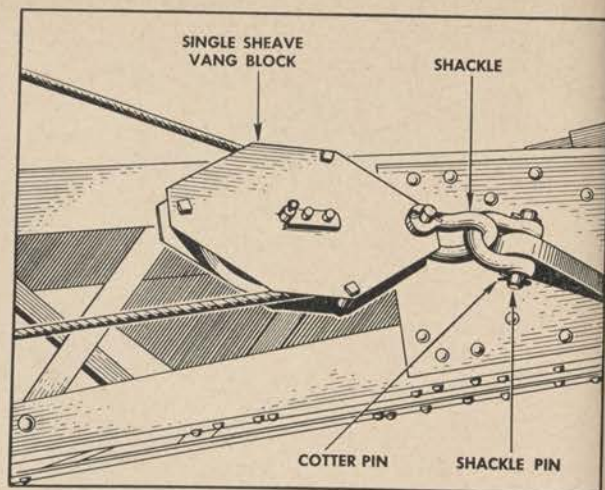

Figure 262. Vang block and shackle.
d. VANG LINE SYSTEM. Both the single and double vang blocks are attached to the boom by shackles. To unshackle the vang block, remove the cotter pin from shackle pin and withdraw the shackle pin. (See fig. 262.) Remove the sheaves from the blocks by removing the sheave pin cotter pins, and driving out the sheave pins, in the same manner as described for the main load block, (2) above.